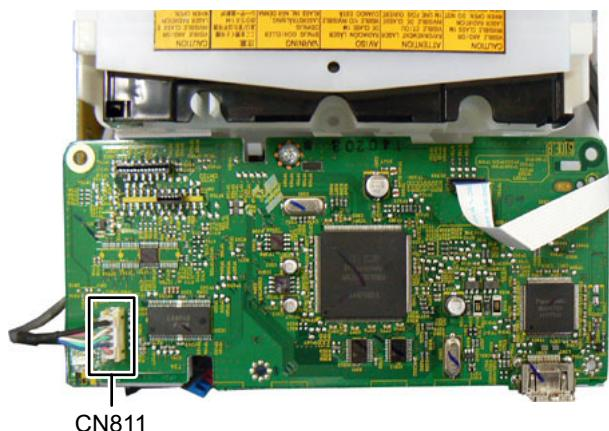

Fig.7
3.1.4 Removing the DVD mechanism (See Fig.7, 8)
- (1) Disconnect the connector wire from USB board connected to connector CN811 of the DVD board. (See Fig.7)